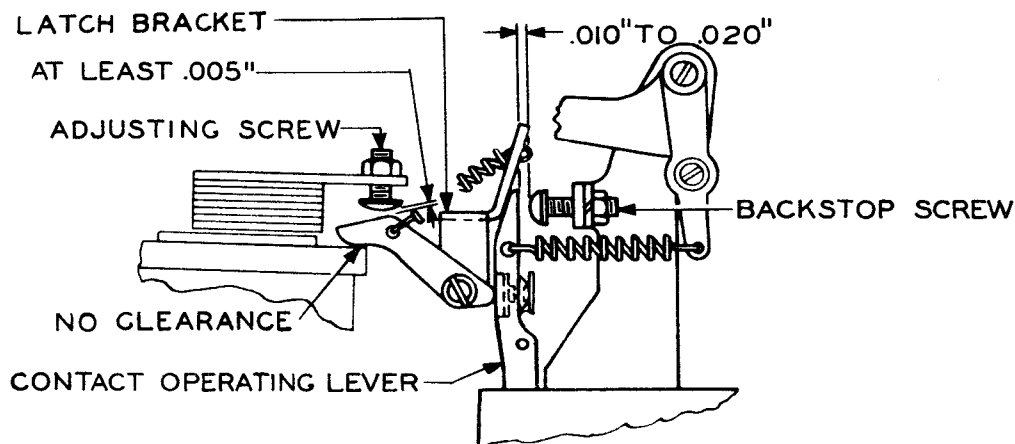

Figure 12
To Adjust: Position the adjusting screw and recheck (1). See Figure 12.
- (3) The end of the antichatter contact lever should extend at least 1/32 inch to the left of the center of the adjusting screw.
2.34 Punch-contact Operating-lever Backstop Screw: There should be a clearance as specified in the figures between the contact-operating-lever backstop screw and the right edge of the contact-operating lever. See Figures 12 and 18.